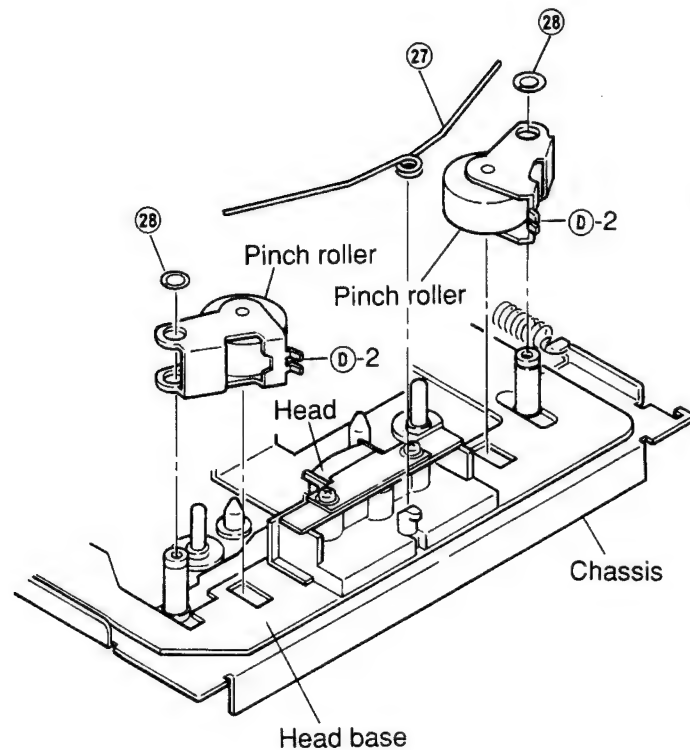

Figure 20
- (1) Remove pinch roller spring ②⑦ as shown in Figure 20.
- (2) Remove M3.1 two lock washers ②⑧ and remove the pinch roller as shown in Figure 20.
- (3) Mount the pinch rollers following the removal steps in the reverse order.
Apply insulation coating to the position ①-2 of the pinch roller as shown in Figure 20.